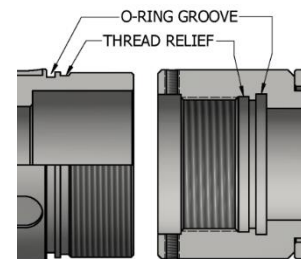

Fig. 2
**CAUTION:** To ensure tool operates properly, install o-rings in o-ring grooves NOT thread reliefs (Fig. 2).